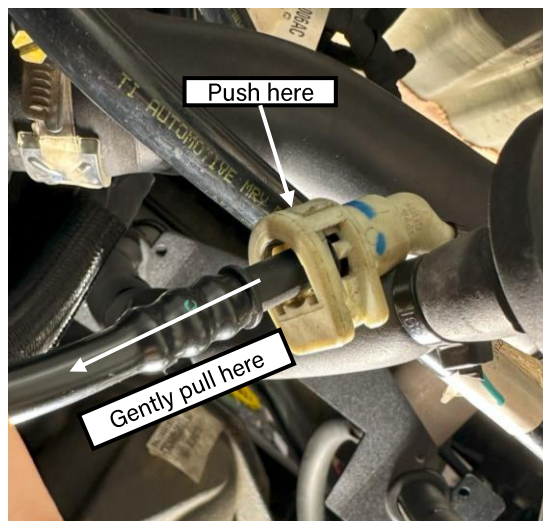

Figure 18: Filler breather clip disconnect
- ❑ Remove the filler breather by removing the blue, plastic retaining clip and gently pushing down on the spring clip on the opposite side (Figure 18)